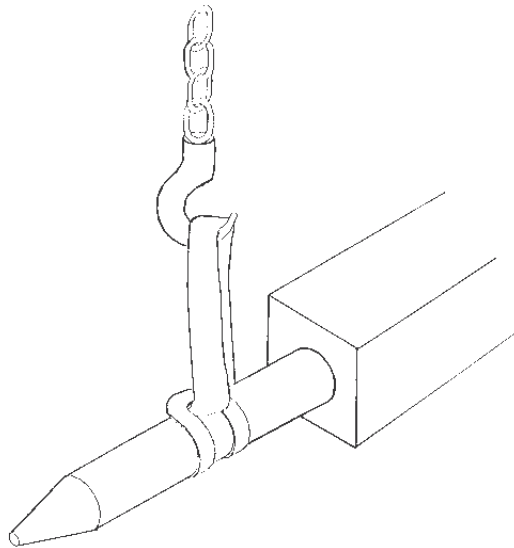

Figure 8-2. Lifting Demolition Tool
4. Using a hoist, remove the demolition tool from the Hy-Ram. Refer to Figure 8-2.